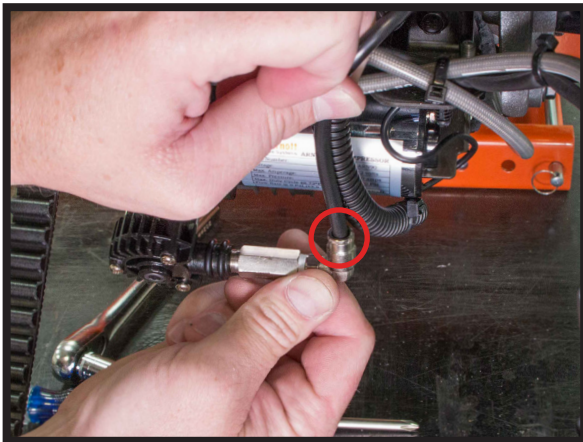

FIGURE 13
7. FEED THE 1/4" HOSE BACK DOWN THE SAME ROUTE AGAIN AND INSERT IT INTO THE PUSH-TO-CONNECT ON THE COMPRESSOR. SECURE THE HOSE AND SPLIT LOOM WITH A ZIP TIE. PLACE THE BATTERY BACK IN THE MOTORCYCLE. (FIGURES 13, 14)